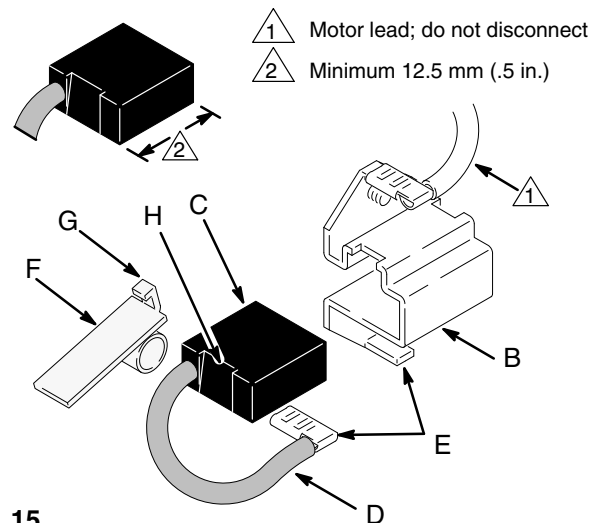

Fig. 15
2. Push in the spring clip (F) and release its hooks (G) from the brush holder (B). Pull out the spring clip. See Fig. 15.
5. Place a new brush (C) in the holder (B) so the ramp (H) faces the spring. See Fig. 15.